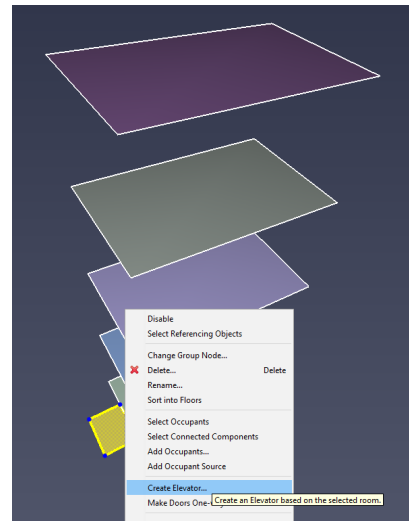

Figure 58. Select Create Elevator in right-click menu
3. Right-click the base room, and from the right-click menu, select **Create Elevator**, see Figure 58. This will show the **New Elevator** dialog as shown in Figure 59.